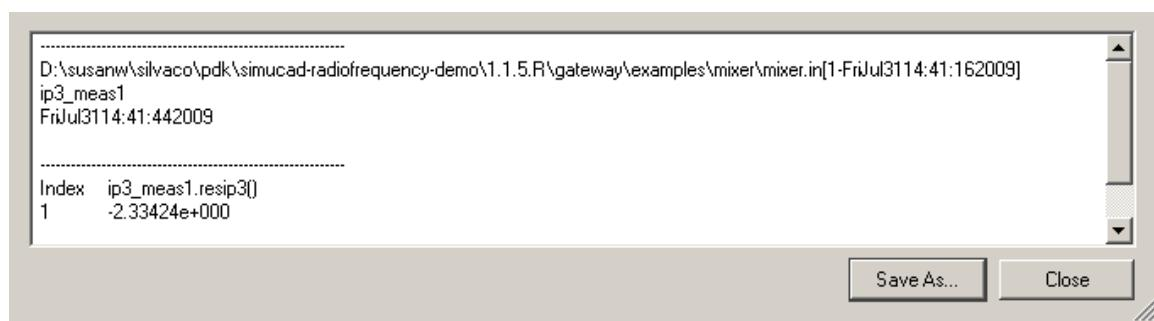

Figure 15: View Data Window: IIP3 = -2.33 dBm
2.12.2: In SMARTSPICERF, you can see the actual values that are being plotted. To view its, select vector “`resip3`” from “`ip3_meas1`” and press **View Data**. IP3 value will be shown in window as on Figure 15.